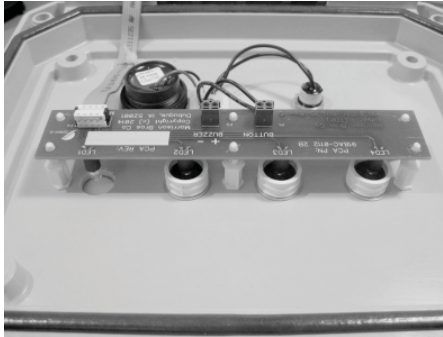

Figure 34 - Place the Indicator Board back in place on its supports
- a. Flip the Indicator Board over and back into place on the top of the (6) supports as shown in Figure 34. **Do not press into place.**